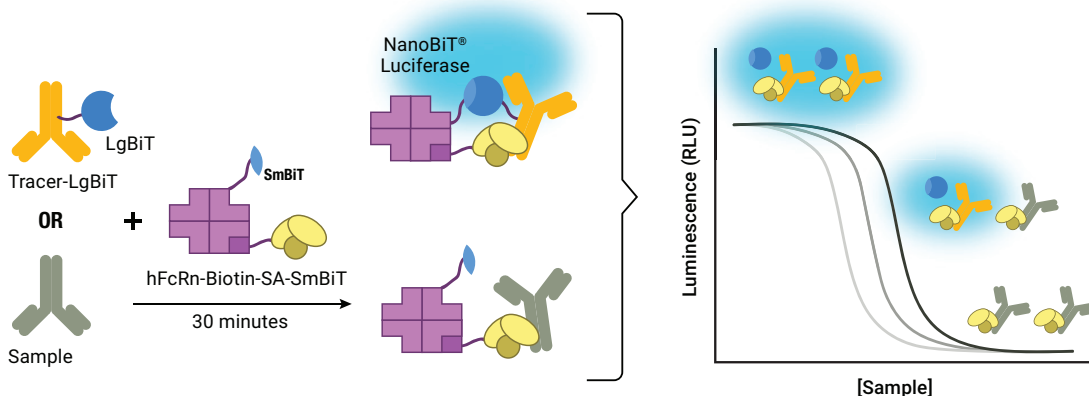

Figure 1. Schematic of the Lumit™ FcRn Binding Immunoassay.
The Lumit™ FcRn Binding Immunoassay^(a,b) is a novel homogeneous (no-wash) competition assay, based on NanoBiT® technology (1) to measure the interaction between human FcRn and Fc proteins, including antibodies (Figure 1). NanoLuc® Binary Technology (NanoBiT) is a structural complementation reporter designed for biomolecular interaction studies. The NanoBiT® system is composed of two subunits, the 18kDa Large BiT (LgBiT) and the 11 amino acid peptide Small BiT (SmBiT) that have been optimized for stability and minimal self-association.